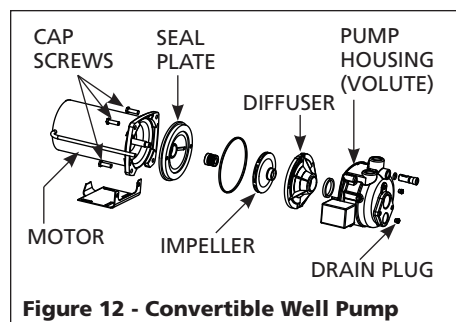

Figure 12 - Convertible Well Pump
3. Remove the four cap screws holding the pump housing (volute) to the motor (Figure 12, on page 7).